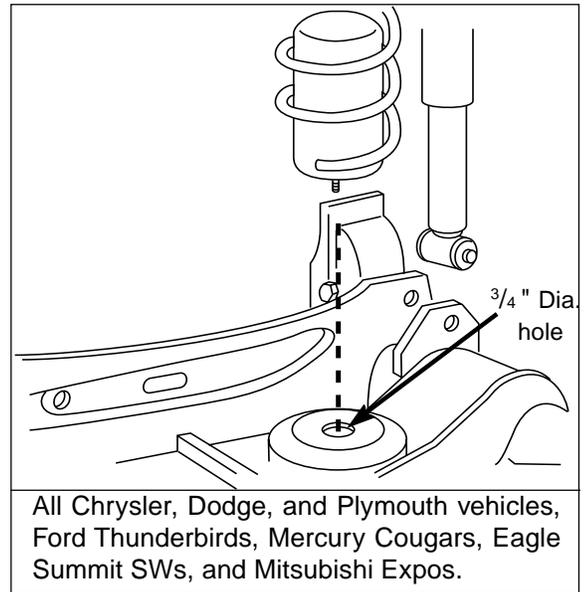

Figure 1
Multiple Applications – See special notes and Figures 1, 2 and 3 for your particular vehicle.
- (3) Stick the template on the underside of the lower spring seat with a dab of grease.
- (4) Centerpunch and drill $\frac{3}{4}$ " diameter hole. Remove all burrs and sharp edges (Figure 1).
- (6) Insert air cylinder into coil spring with stem at bottom. Push the cylinder up within the coil by hand or with a blunt instrument such as a spoon-type tire iron.
- (7) When the cylinder is completely within the coil, remove the cap and allow the cylinder to assume its "as molded" shape. For Thunderbirds or Cougars skip to step (9), otherwise continue on to step (8)
- (8) For Chrysler, Dodge, or Plymouth: With the air cylinder stem down (Figure 1) install coil springs into spring seats and rotate to proper location. Attach lower shock absorber attaching bolts. Torque to 25 ft-lbs.
- (9) Continue with air line installation on pages 2-4.
- (1) Increase the diameter of the hole in the lower spring seat to $\frac{3}{4}$ " diameter. Remove all burrs and sharp edges.
- (2) Insert air cylinder into coil spring with barbed stem towards the bottom. Push the cylinder up within the coil by hand or with a blunt instrument such as a spoon-type tire iron (Figure 1).
- (3) When the cylinder is completely with in the coil, remove the cap and allow the cylinder to assume its "as molded" shape.
- (4) Continue with air line installation on pages 2–4.
If the vehicle's headlights are shining into the trees or the vehicle is leaning to one side, then it is not level (fig. 1). Raise the air pressure to correct either of these problems and level the vehicle.